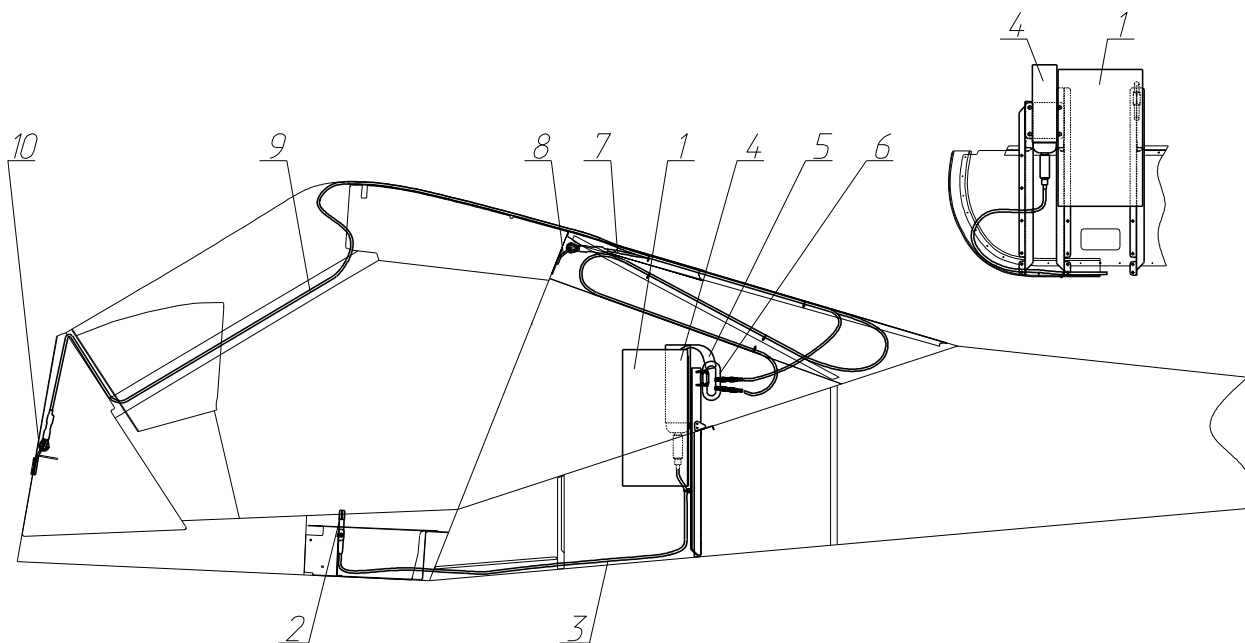

Fig. 22. Recovery system
Installation of the recovery system is shown on **Fig. 22**. The parachute packed into a soft container (1) is located behind the baggage compartment. To deploy the system pull the handle (2) of the ejection device connected with a cable (3) to the rocket housing (4). That launches the rocket which pulls out the parachute, attached with a rope (5) via a carabiner (6) to the cables (7) and (9) fastened to the attachment points (8) and (10). The locations of the attachment points and the cables' length are selected so that the aircraft when descending with deployed parachute is suspended in a certain attitude (wings level, nose lowered). Such attitude ensures a high level of safety to pilots during emergency landing despite the fact that the aircraft structure is likely to be damaged while absorbing the impact at touchdown.